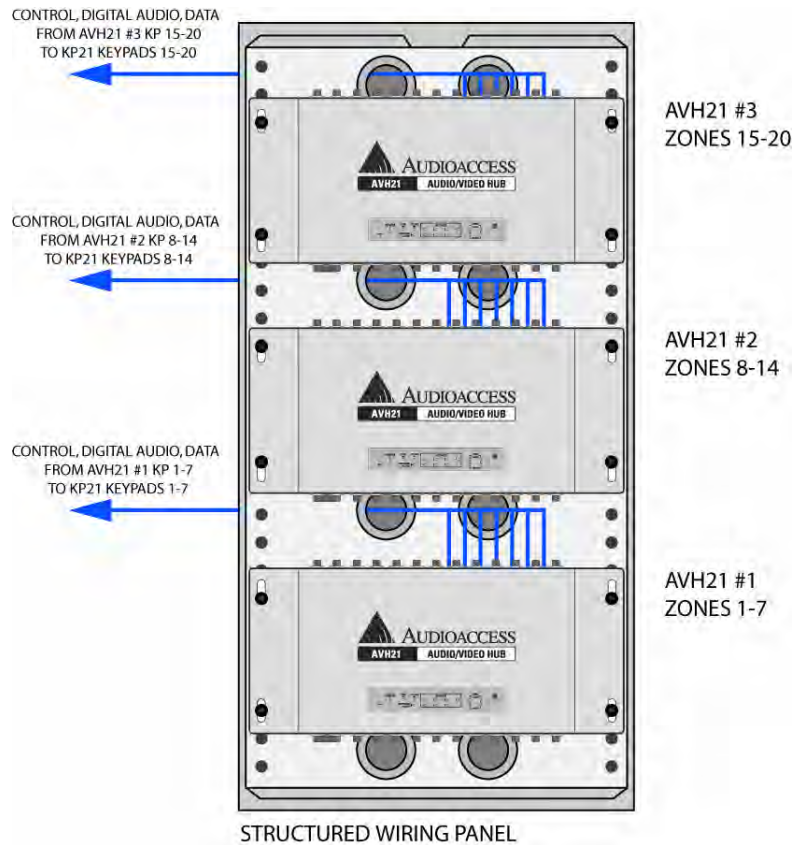

Figure 92 AVH21 Keypad Connections
1. Using CAT5e cable properly terminated with RJ45 connectors, connect the cables to the appropriate KP21 Keypad Terminals, **KP 1-7 [pentagon 5]** on the AVH21. As shown in **Figure 92**. Confirm proper connection by zone (Keypad number). Improper connection of the wrong keypad to the wrong terminal will cause operational errors.
2. In larger systems using multiple Hubs, repeat step 1 for all keypad connections to AVH21 #s 1,2 and 3. Confirm all connections by zone (keypad number) as shown in **Figure 92**.